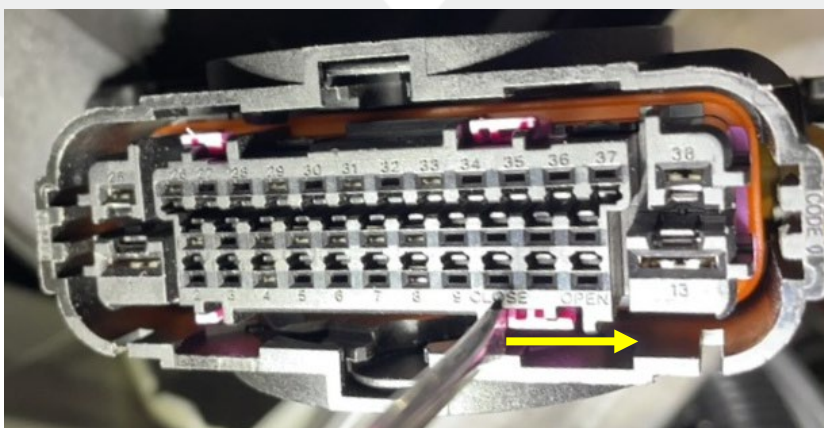

Figure 19
20. Use a pick to slide the large locking tab of connector X151 from “CLOSE” to “OPEN” (Figure 19).